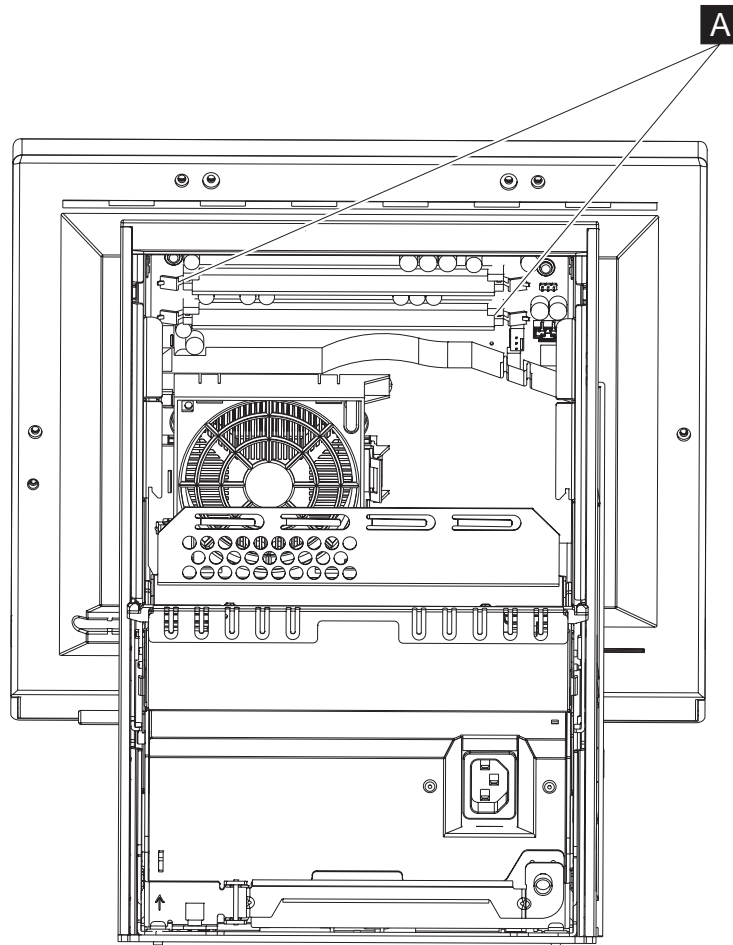

Figure 14. Memory module location
4. Locate the memory module **A** in Figure 14 on page 27 and release it by pressing outward on the two retainer tabs.